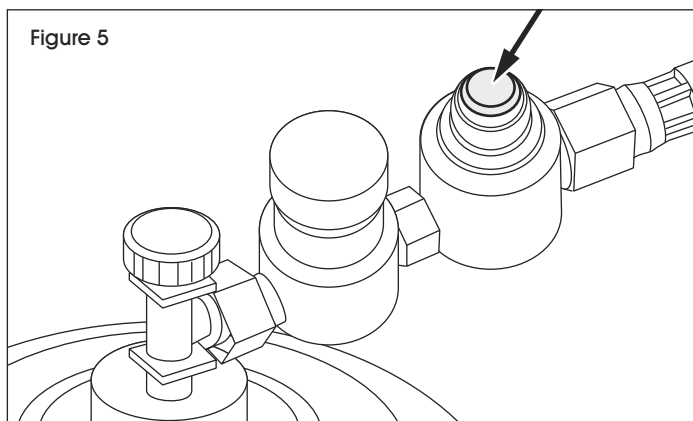

Figure 5
5. Push the START button on top of the regulator towards the propane tank. Hold for three seconds. (See Figure 5)